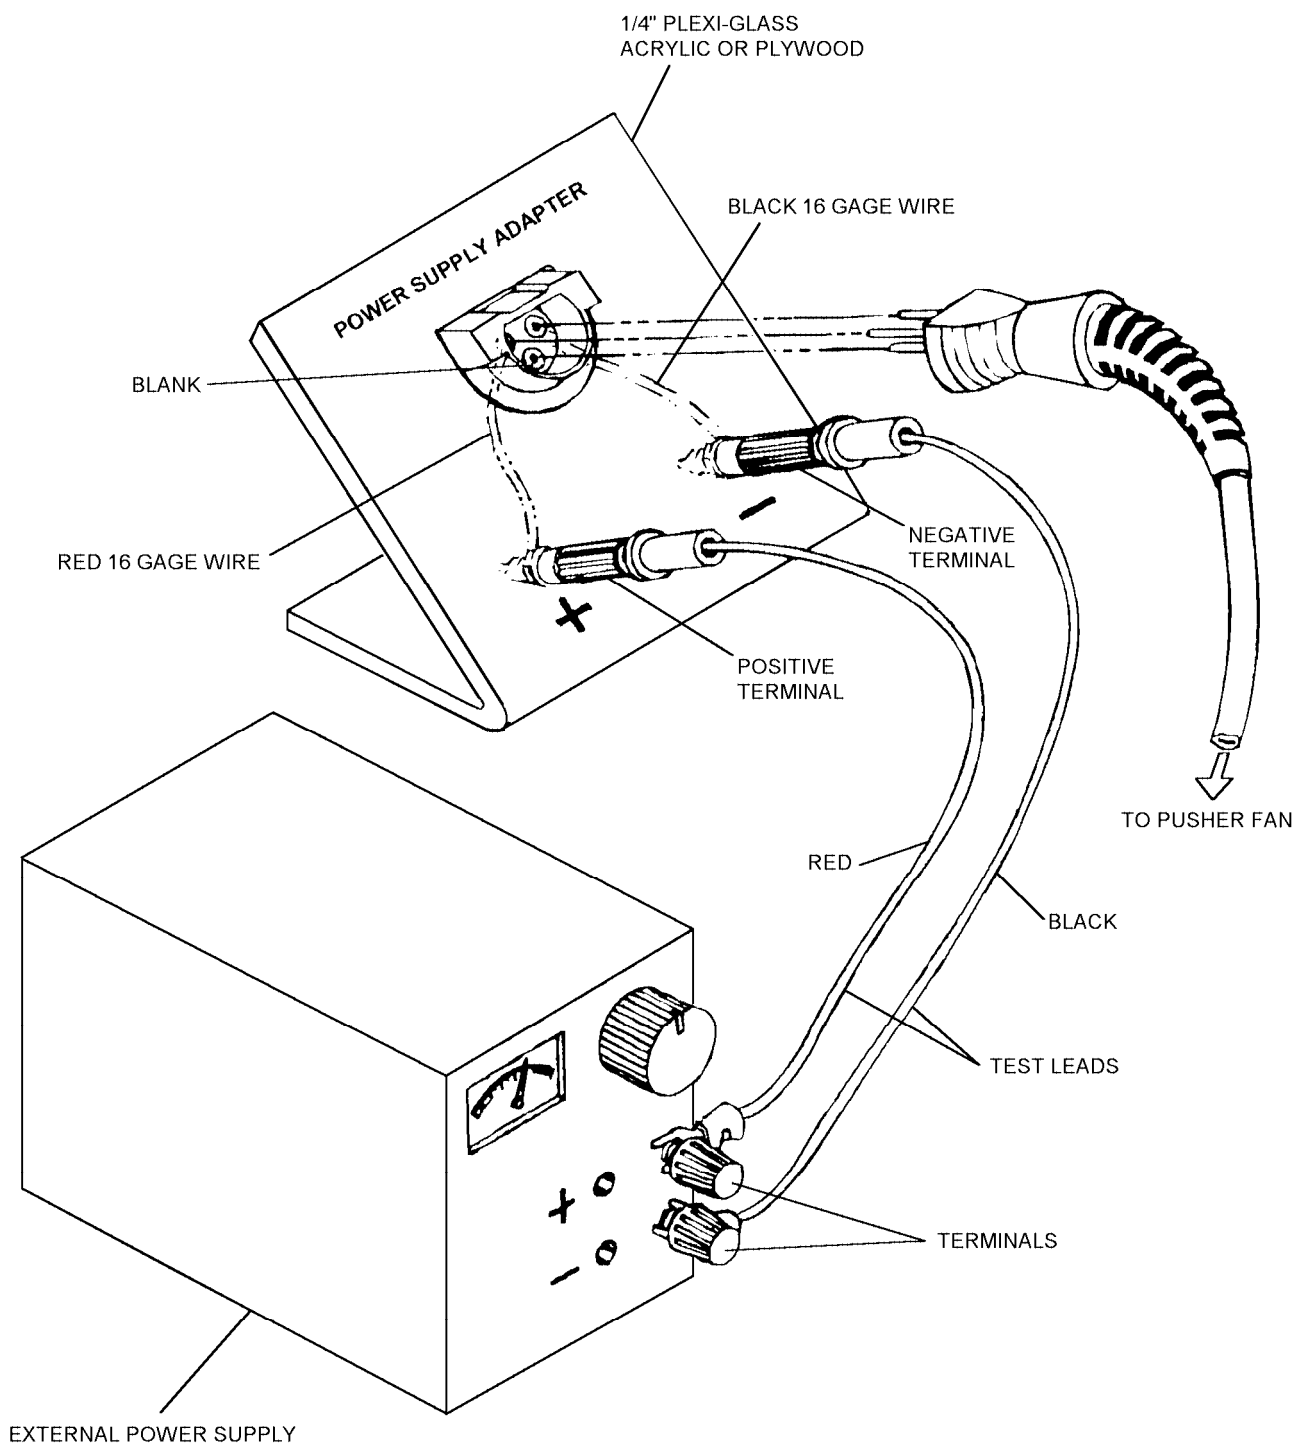
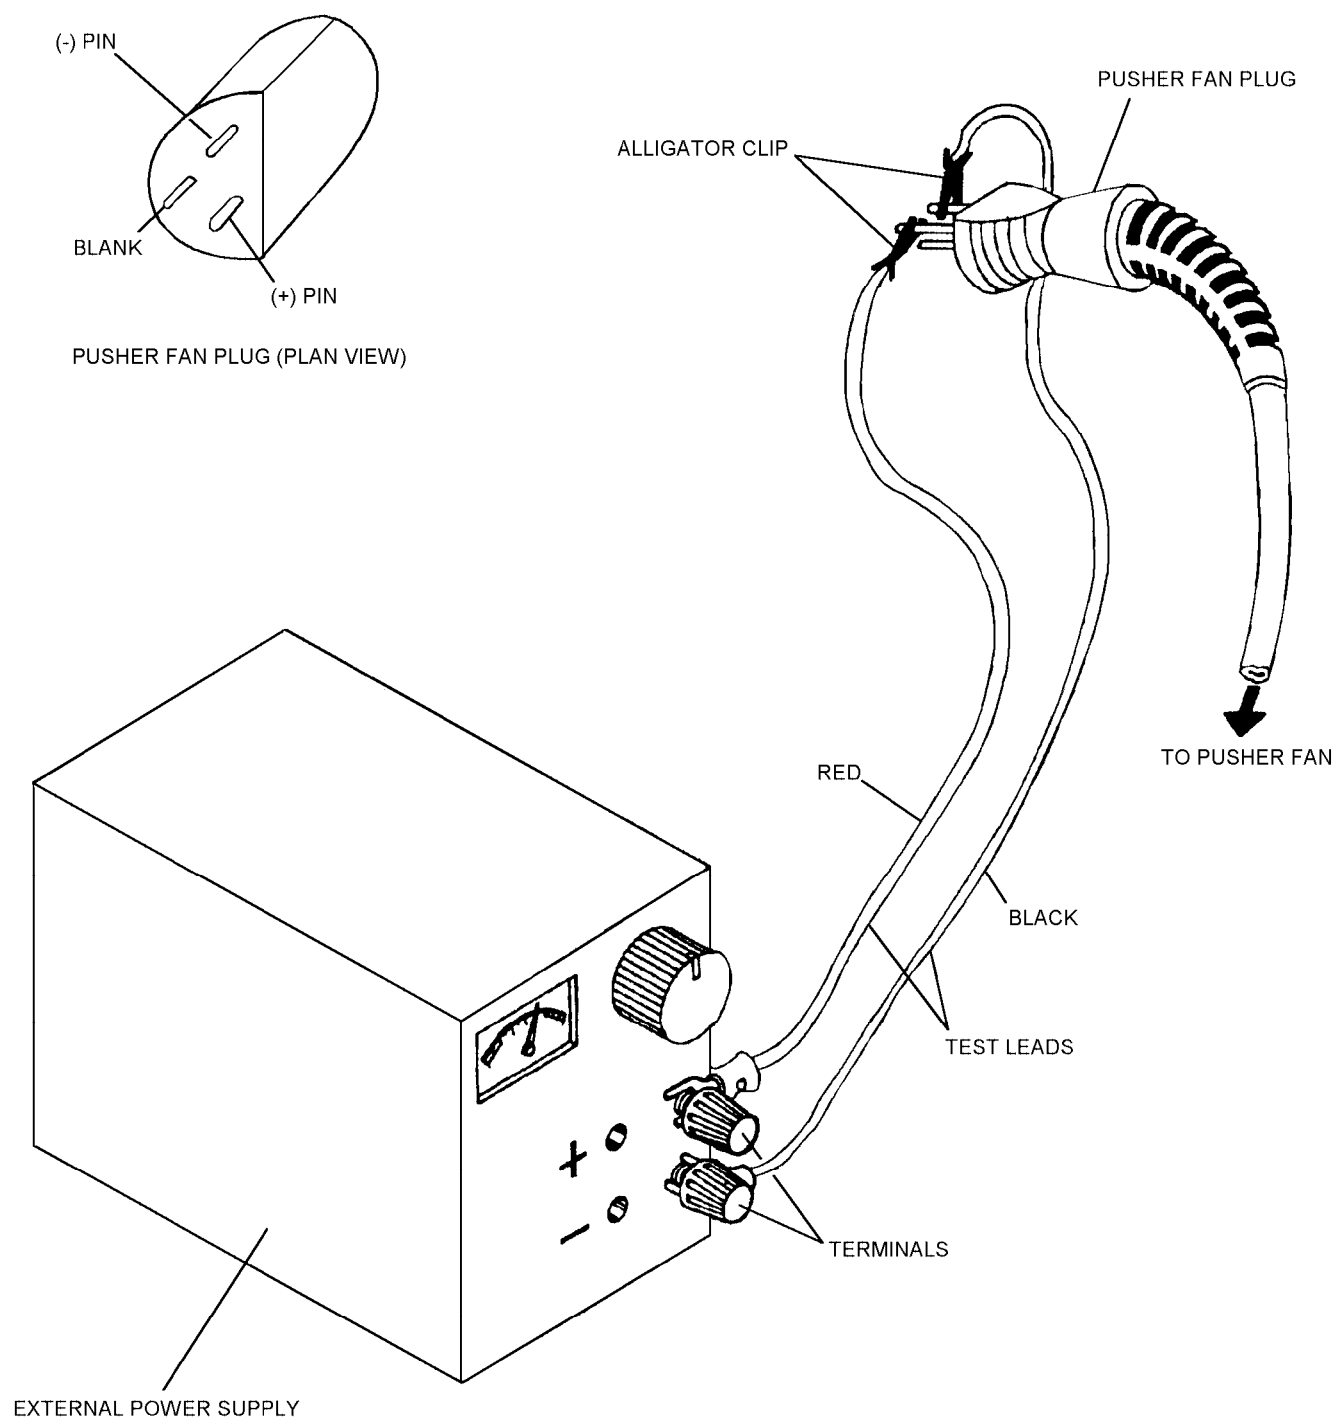

Figure 3-33. Power Supply Adapter (P/N 3297AS623-1) Pusher Fan Pressure Test
Figure 3-34. Pusher Fan Pressure Test Direct Wiring
A power supply adapter, P/N 3297AS623-1, (see figure 3-33) is recommended for use during all tests requiring a pusher fan. If power supply adapter is not available, pusher fan can be wired directly to external power supply (figure 3-34).
6. If not using power supply adapter, connect test leads to pins of pusher fan plug as shown in figure 3-34. If a dc power supply is not available, connect pusher fan plug to a battery.